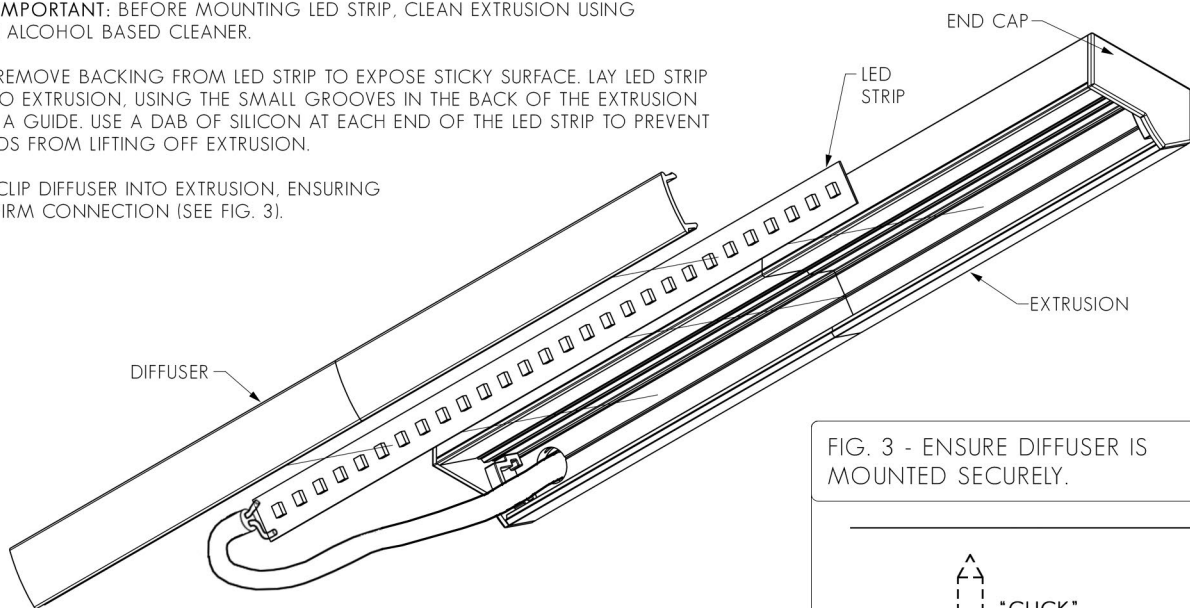

FIG. 3 - ENSURE DIFFUSER IS MOUNTED SECURELY.
3. CLIP DIFFUSER INTO EXTRUSION, ENSURING A FIRM CONNECTION (SEE FIG. 3).